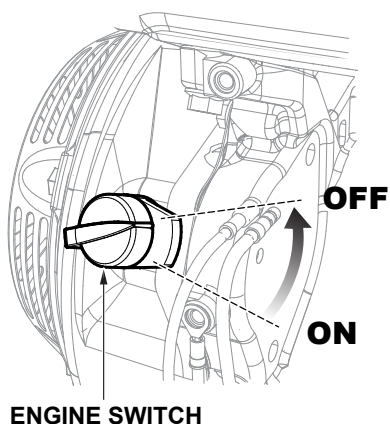

Figure 41. Engine ON/OFF Switch (OFF)
2. Release the handle and place the engine ON/OFF switch in the **OFF** position (Figure 41).